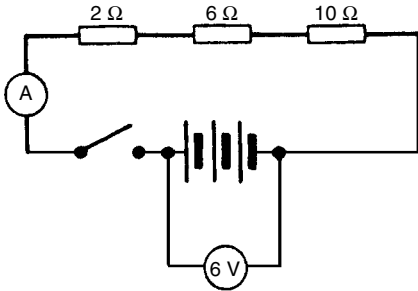

Figure 5.38
- With the switch in Fig. 5.38 closed the ammeter reading will indicate: (a) 108 A (b) $\frac{1}{3} \text{ A}$ (c) 3 A (d) $4\frac{3}{4} \text{ A}$
- A 6Ω resistor is connected in parallel with the three resistors of Fig. 5.38. With the